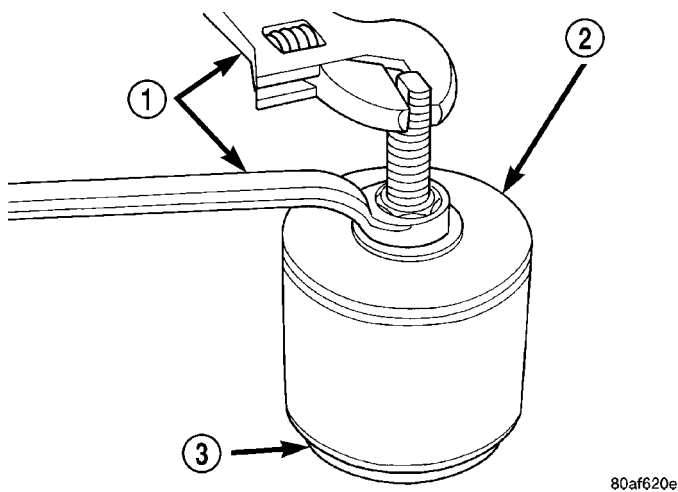

Fig. 63 Remove Transfer Shaft Bearing Cup
(42) Remove transfer shaft bearing cup from retainer using Tool 6062 (Fig. 63).